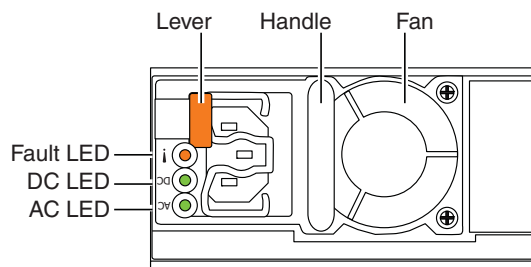

Figure 15 SP latch, power supply module (power in) recessed connector (plug), and status LEDs
Figure 15 shows the storage processor (SP) power supply module located on the top, right side of each SP base module enclosure when viewed from the rear. Each power supply includes three status LEDs (AC, DC, and DC fault). A latch on the power supply locks it into place to ensure proper connection.